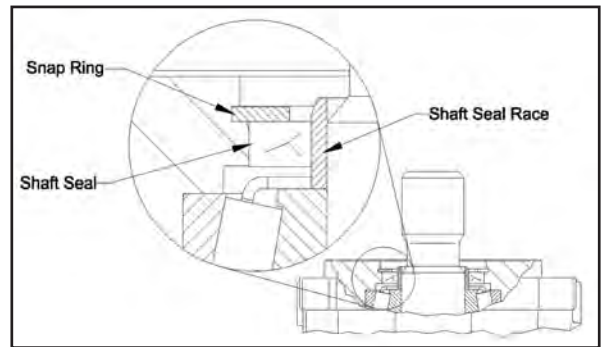

Figure 1
- 4) Then place belt over cuttershaft sprocket and loop belt over motor sprocket (with taper-lock) and slide motor sprocket/taper-lock onto motor shaft. Position motor sprocket on motor shaft to align with lower sprocket. Place straight edge across faces of sprockets to align sprockets so that straight edge contacts the inside and outside edges of both sprockets (see photo). The sprockets must align within 1/16", as shown for both illustrations in Figure 1, i.e. place straight edge flat across upper sprocket and swing it across lower sprocket, also place straight edge flat across lower sprocket and swing it across upper sprocket. The allowable gap/misalignment for both cases is 1/16" between straight edge and inner or outer edge of other sprocket, whichever is more. Secure taper-lock into sprocket with set screws; torque set screws to 36 ft-lbs., and confirm that alignment is within 1/16".
Figure 1 illustrates the area of the unit where the work is to be done and some key items which will be referenced with these instructions.